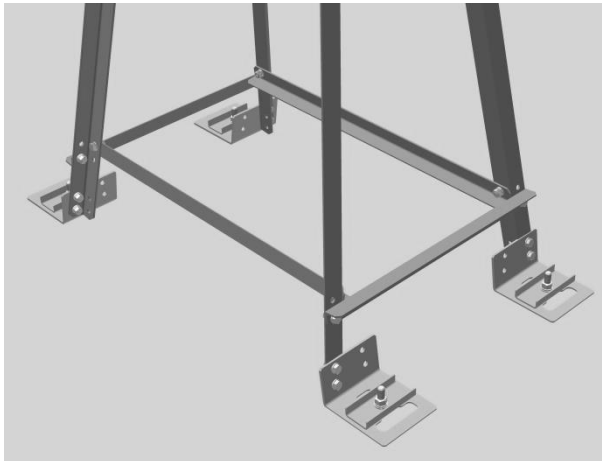

Figure 40
- 558...609 x 1056...1219 mm (Figure 40);